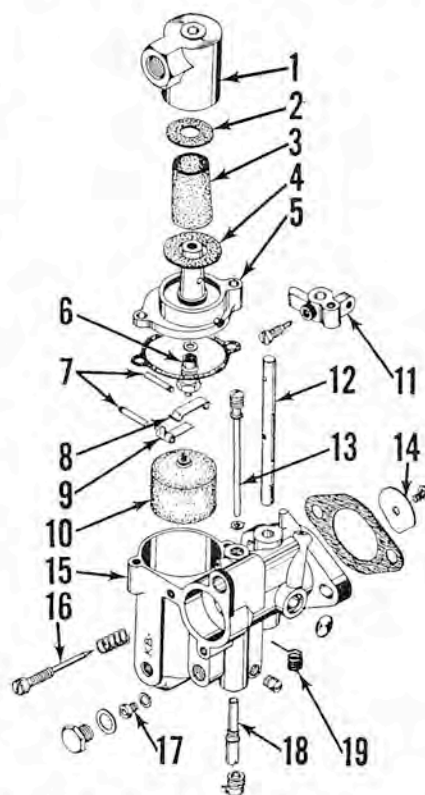

Fig. M46—Exploded view of Tillotson carburetor of the type used on most models.
Tillotson Carburetors: All models except Mark 20H are normally equipped with Tillotson Series AJ, KA, KB or KC carburetors. Construction is similar for all carburetors. Refer to Fig. M46. Some early models are equipped with a high speed mixture adjustment needle instead of the fixed jet (17); and are not equipped with the fuel filter (3).